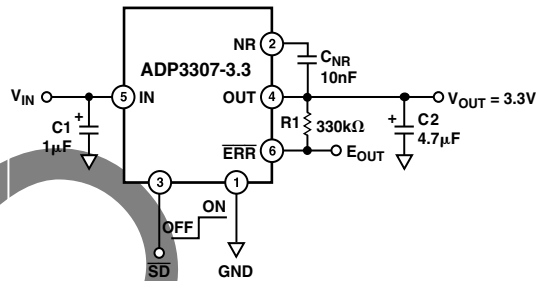

Figure 3. Noise Reduction Circuit
A noise reduction capacitor ( $C_{NR}$ ) can be used to further reduce the noise by 6 dB–10 dB (Figure 3). Low leakage capacitors in 10 nF–100 nF range provide the best performance. As the noise reduction capacitor increases the high frequency loop-gain of the regulator, the circuit requires a larger output capacitor if it is used. The recommended value is 4.7  $\mu\text{F}$ , as shown in Figure 3. Since the noise reduction pin (NR) is internally connected to a high impedance node, any connection to this node should be carefully done to avoid noise pick up from external sources. The pad connected to this pin should be as small as possible. Long PC board traces are not recommended.